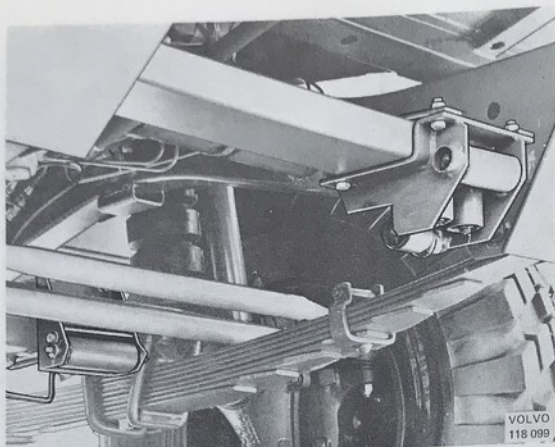

Fig. 92-34. Fair lead
1. Pull the cable through the leading fair lead, see Fig. 92-34. Disconnect the fair lead ring from the spring at the gearbox attachment.